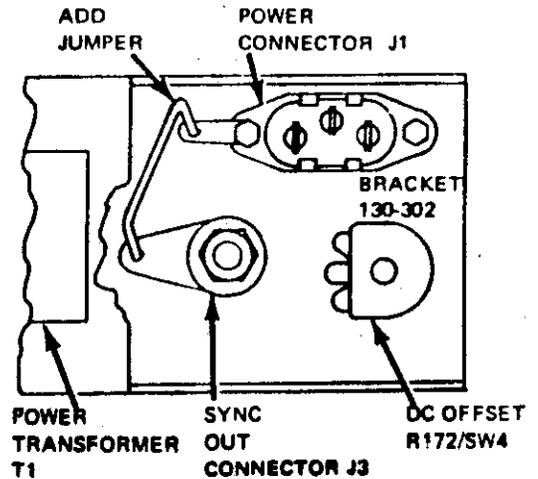

Figure 2-3. Common Ground Connection Diagram
3. Solder a jumper wire between the ground lugs (green wires) of the SYNC OUT connector and the power connector (Figure 2-3).